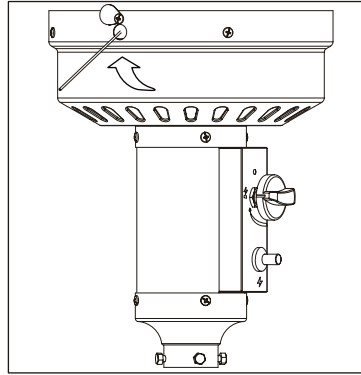

Figure 4
- As you are depressing the control knob, place long stem lighter (not included) into the viewing hole on the head assembly to light the pilot (**Figure 4**).